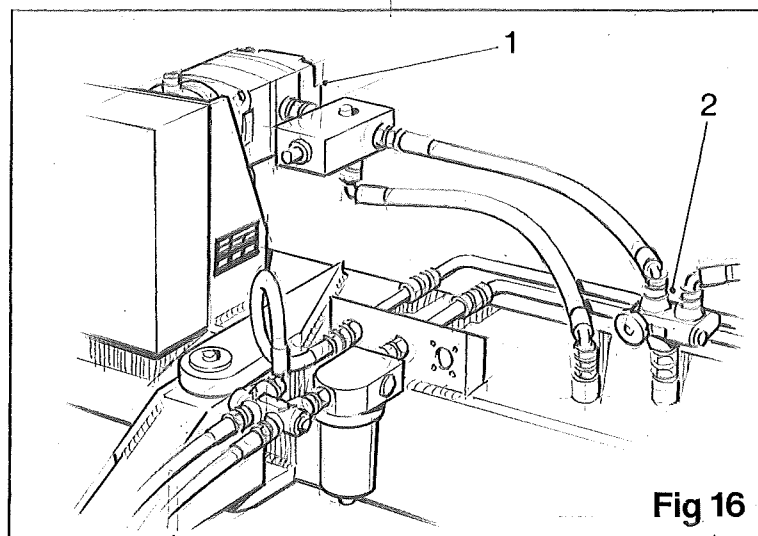

Fig 16
The hydraulic pump (item 1, fig 16) produces 21 imperial gallons/minutes flow at 540 rpm PTO speed. This flow ^{allows} for a maximum speed of the rollers of 420 rpm.
By rotating the dial knob on the flow divider (item 2, fig 16) mounted on the front frame beam, this speed can be varied; the lower the number on the dial relative to the marker, the slower the speed of the rollers.